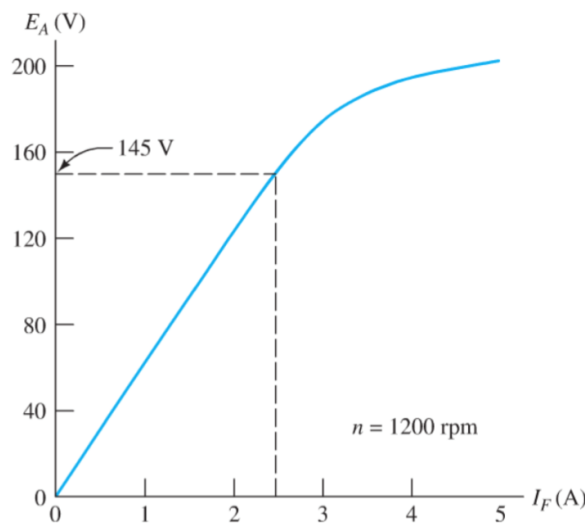

Figure 3.1 : Magnetization curve for 200 V, 10 hp dc motor.
3. (a) Calculate the voltage E_A for the machine having the magnetization curve shown in Figure 3.1 for $I_f = 2$ A and a speed of 1500 rpm.